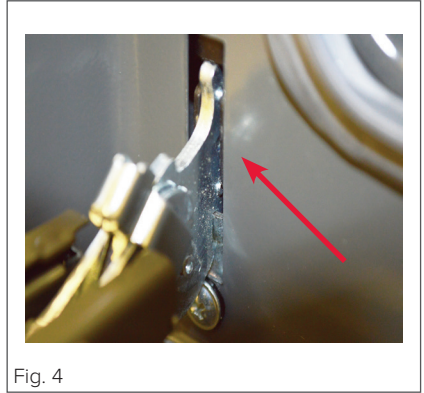

Fig. 4
- Hold the door to the appliance in the closed position and manoeuvre the hinges so that the part of the hinge, highlighted by the arrow in fig. 4, inserts into the hinge slot in the cavity frame